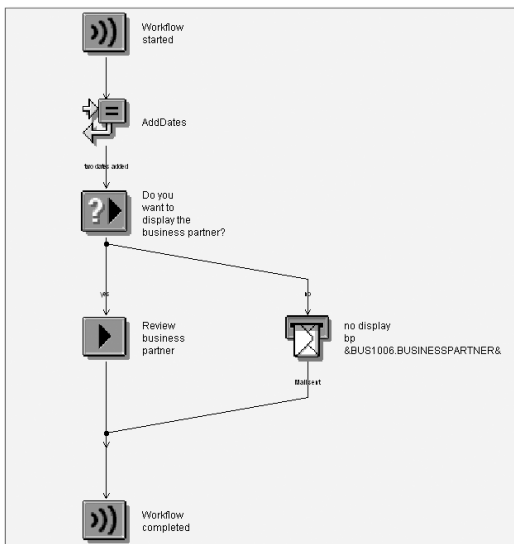

Figure 8.8 Example Process Built in This Section
At this point, your process should look like Figure 8.8. The user decision step is followed by two steps: review of the business partner and send email.
2. In the workflow from Figure 8.8, if you double-click on the **USER DECISION** step (*Do you want to display the business partner?*) and select the **OUTCOMES** tab, you will see three outcomes: **YES**, **NO**, and **PROCESSING OBSOLETE**.